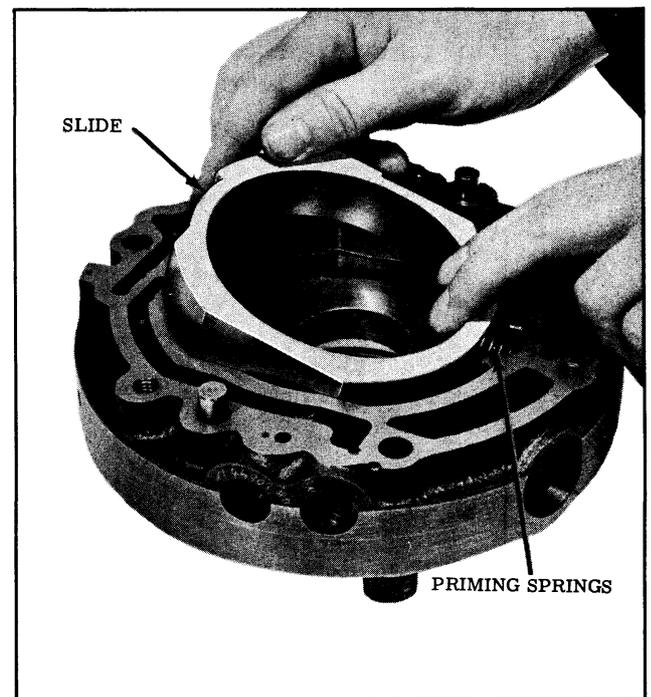

Fig. 3-97 Removing Front Pump Slide
4. Remove the slide by pushing toward the priming springs, then lift out of the body from the opposite side. (See Fig. 3-97)